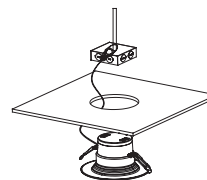

Fig. 7
- Step 2: Attach the carabiner safety clip to the existing fixture housing (Fig.7).